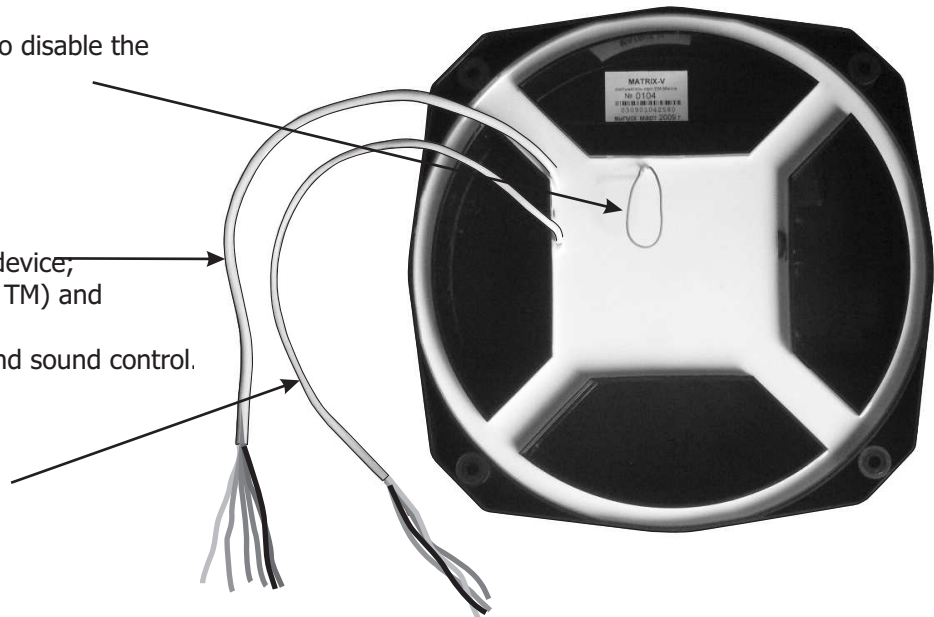

Figure 2. Reader back view.
- Connect the wires per Figures 2, 3, 4, 5.